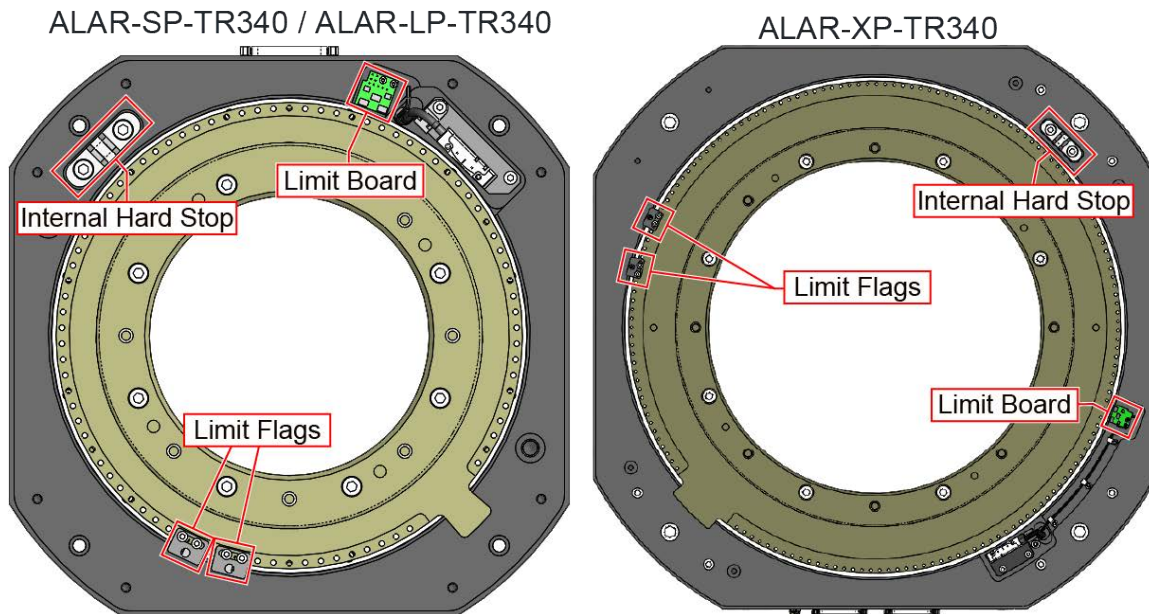

Figure 2-15: ALAR Limit Flag Adjustment
NOTE: The internal hard stop can be used as a reference point while setting up the external hard stops but should be removed prior to running the stage. Refer to Figure 2-15.
2. Remove the [QTY. 8] button head cap screws to remove the top covers from the stage (refer to Figure 2-15).